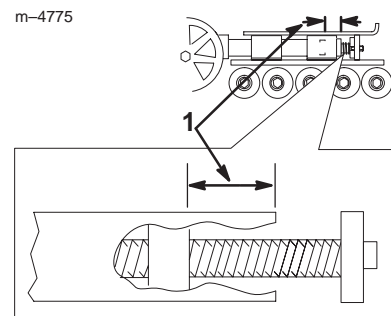
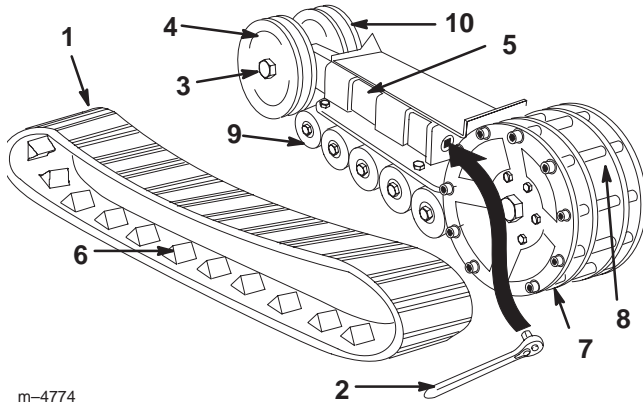

Figure 35
Figure 38
Check and adjust the track tension every 100 operating hours. There should be 2-3/4 in. (7 cm.) between the tension nut and the back of the tension tube (Fig. 35). If not, adjust the track tension using the following procedure:
4. Using a 1/2 in. drive socket (Fig. 38), turn the tensioning screw counter-clockwise until the distance between the tension nut and the back of the tension tube (Fig. 35) is 2-3/4 in. (7 cm.).
11. Turn the tensioning screw counter-clockwise until the distance between the tension nut and the back of the fork tube (Fig. 35) is 2 3/4 in. (7 cm.).
5. Push the tension wheel toward the rear of the unit to move the tension tube against the frame (Fig. 38). (If it does not touch the frame, continue turning the tensioning screw until it does.)
6. Remove the nut securing the outer tension wheel and remove the wheel (Fig. 38).
7. Remove the track (Fig. 38).
8. Remove the nut securing the inner tension wheel and remove the wheel (Fig. 38).
12. Install the inner tension wheel and secure it with the nut removed previously (Fig. 38).
14. Install the new track, ensuring that the lugs in the track fit between the spacers in the middle of the drive sprocket (Fig. 38).
15. Install the outer tension wheel and secure it with the nut removed previously (Fig. 38).
17. Turn the tensioning screw counter-clockwise until the distance between the tension nut and the back of the tension tube (Fig. 35) is 2-3/4 in. (7 cm.).